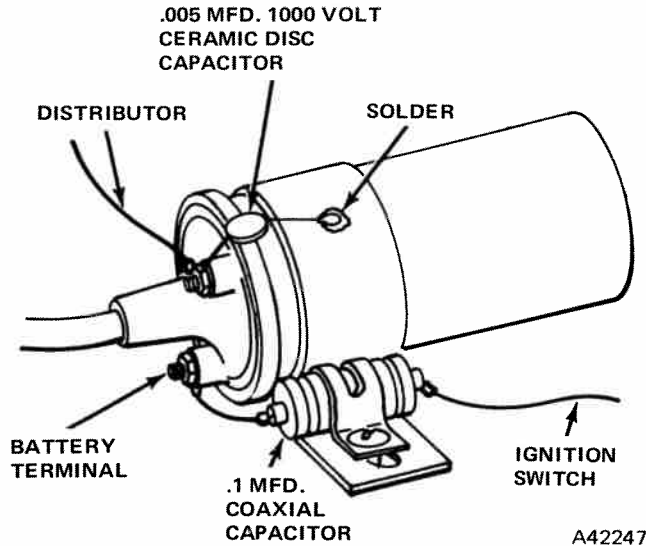

Fig. 3-92 Special Noise Suppression
(1) Install an 0.1 mfd coaxial capacitor as closely as possible to the coil battery terminal - not the distributor terminal. Do not use an ordinary bypass capacitor.
(2) Install a 0.005 mfd, 1000-volt ceramic disc capacitor at the coil distributor terminal (fig. 3-92).
(3) Install a 0.5 mfd coaxial capacitor at the alternator output terminal. Be sure it is rated to handle the maximum alternator current.